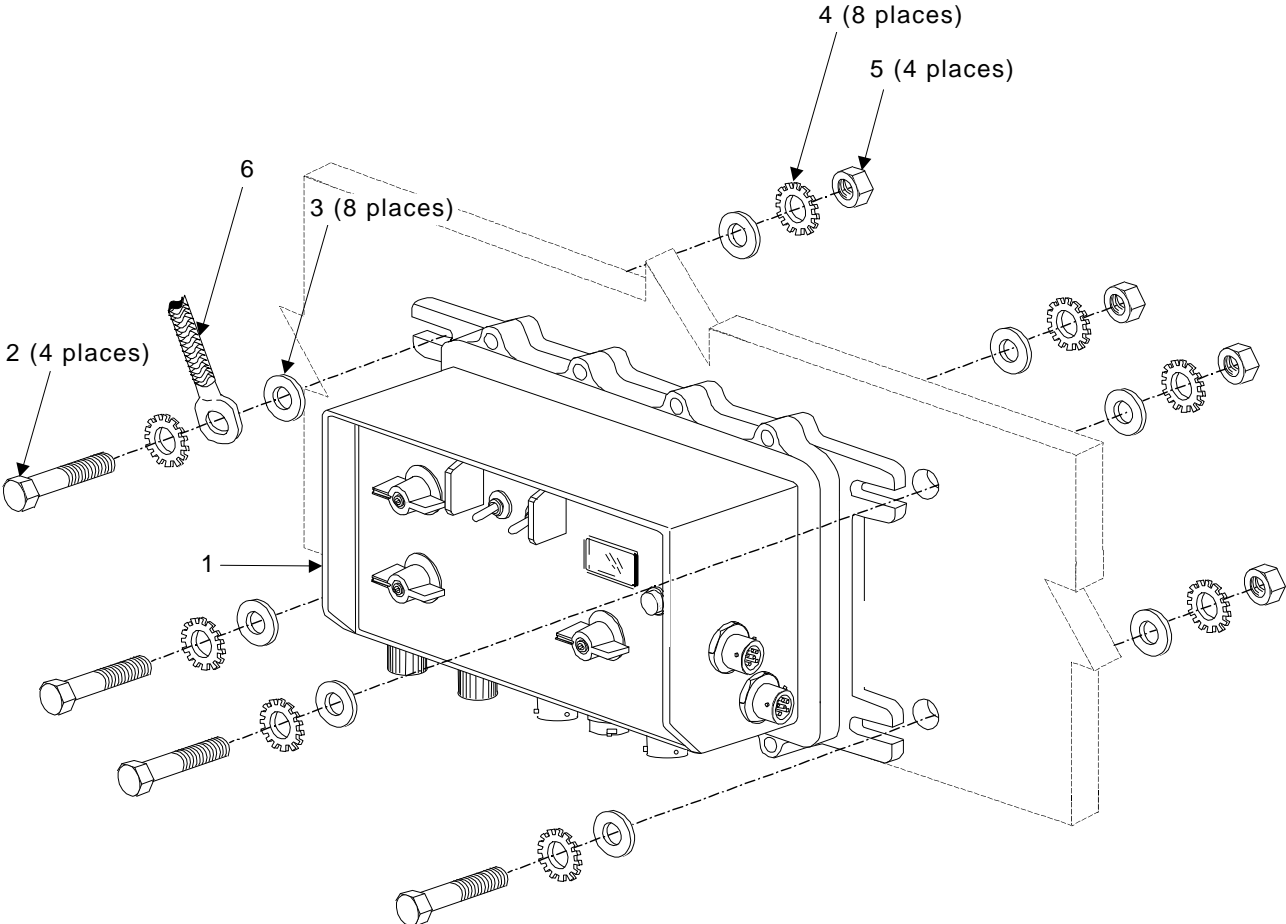

Figure 4-3. MCS Installation
- a. Install and secure the MCS to the retained bracket in the sequence(s) shown in Figure 4-3 using the parts listed in Table 4-1 and the following tools: